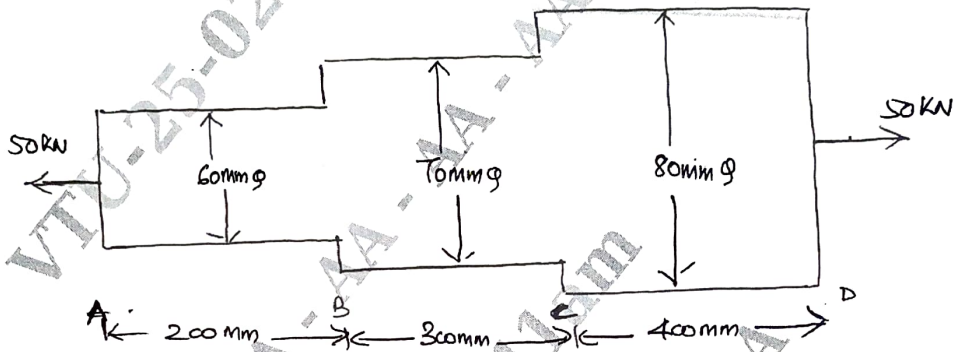

Fig. Q1 (b)
- b. Find the total elongation in the bar and stresses induced in each portion of the bar. Refer Fig. Q1 (b). The Young's modulus of material is  $2.0 \times 10^5 \text{ N/mm}^2$ . (10 Marks)